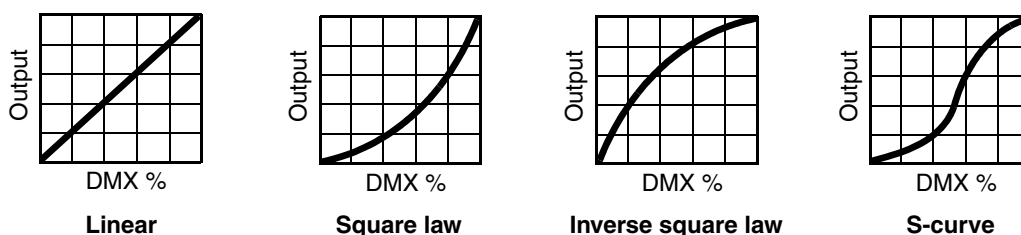

Figure 3: Dimming curve options
- **DIMMER CURVE** provides four dimming options (see Figure 3):